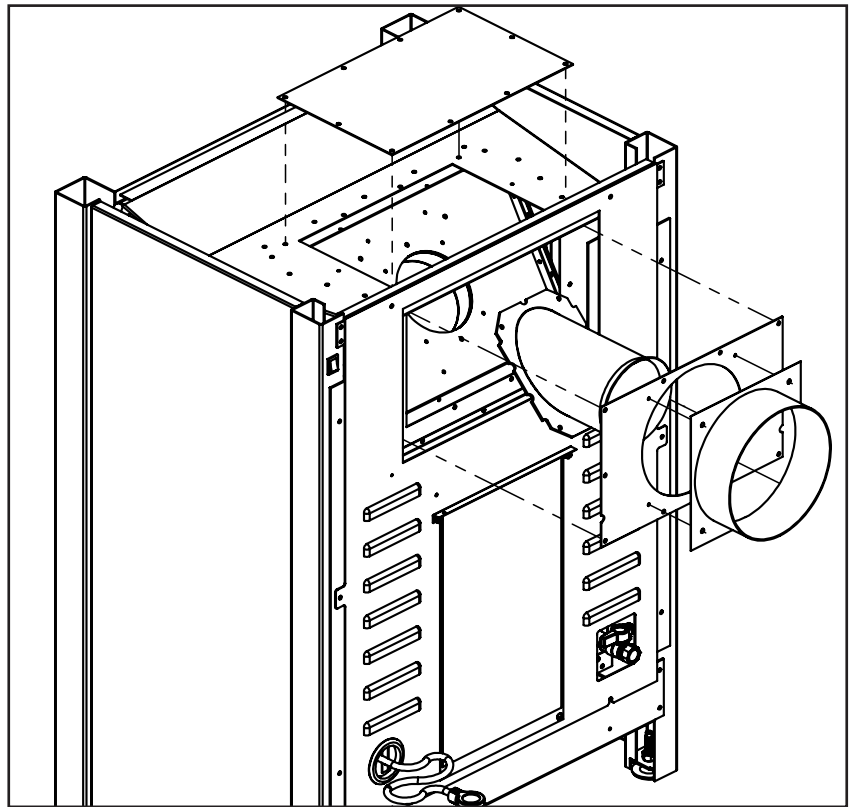

Figure 25. Vent Conversion - Step 3
Step 3: Switch the removed parts around as shown in Figure 25 and re-install all 28 screws. To correctly install the base plate keep the locating notch on each side at the bottom. Also note the exhaust spigot uses a lower set of holes when setup as a rear vent.